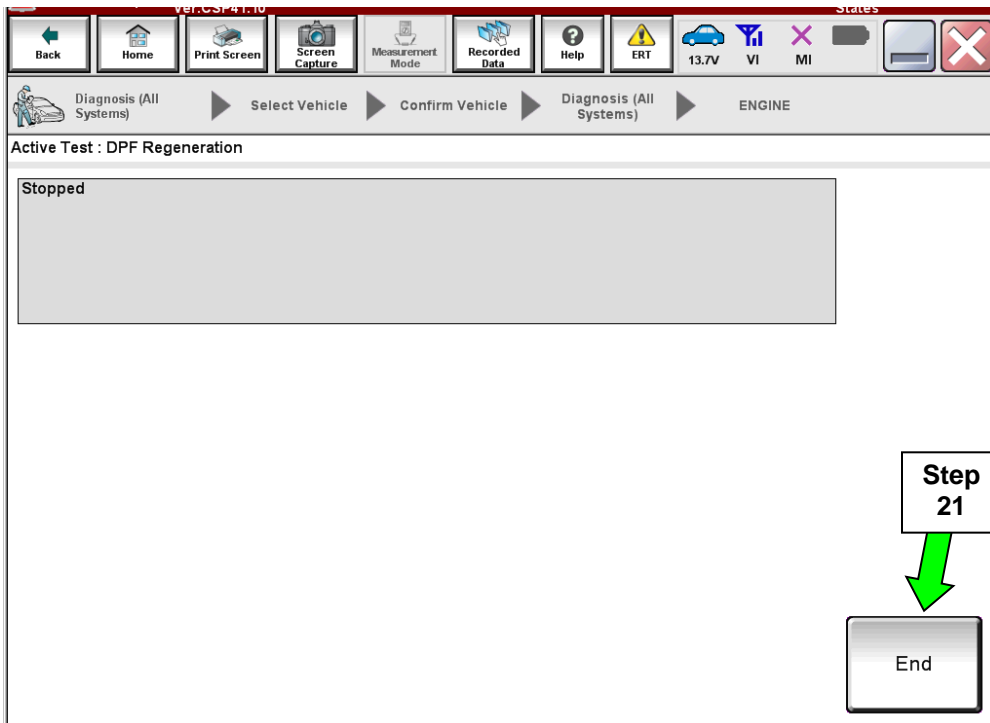

Figure 8
21. When the stationary regeneration completes, the screen in Figure 8 will appear. Select **End**.
- Do not select **End** until C-III plus states the stationary regeneration process has completed on its own (see “completed” screen in Figure 8).